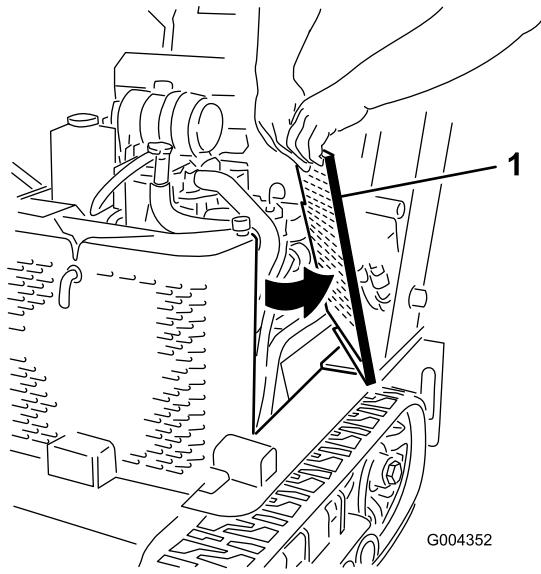

Figure 29
2. Slide the side screens (Figure 29) up and out of the slots in the front screen and frame.